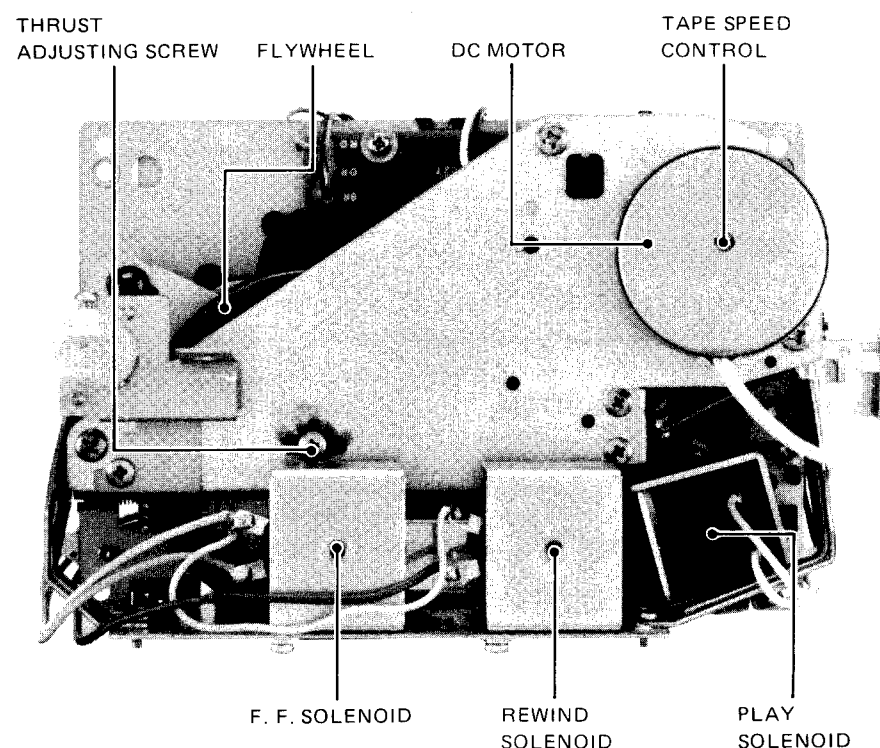

Fig. 3-4 Transport rear view
1. Turn the thrust adjusting screw so that thrust of the capstan shaft is from 0.1 mm to 0.3 mm. For the thrust adjusting screw location, see Fig. 3-4.
4. While the tape is playing, use a common slotted screwdriver with the handle completely insulated from the blade, and adjust the control built into the motor (see Fig. 3-4.) for a reading of 2,985 to 3,015 Hz on the frequency counter.
スラスト調整ねじ (Fig. 3-4 参照) でスラストのガタを 0.1~0.3 mm の範囲内に調整。